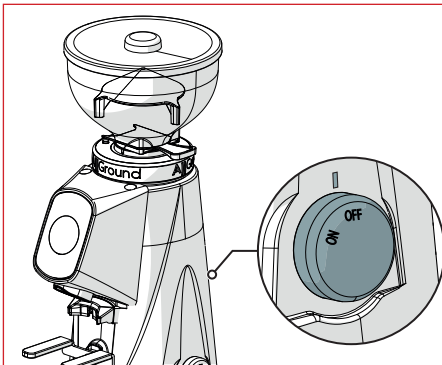
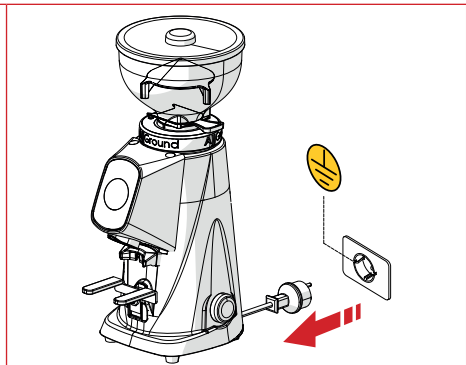

Fig. 14
Fig. 15
**ATTENTION!** Before doing any cleaning work, disconnect the grinder from the power supply by turning the appropriate switch to the “O” (OFF) position (Fig. 14) and remove the power plug from the relative power socket (Fig. 15).